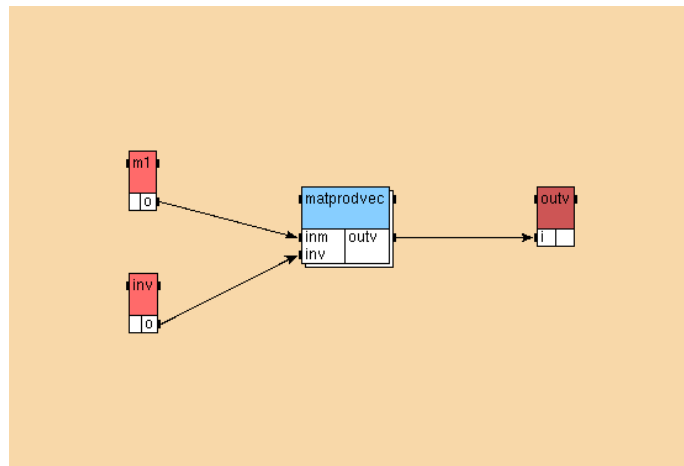

Figure 4.9: AlgorithmMain3 of the **Example 4**
- then create dependences to obtain an algorithm (cf. figure 4.9).